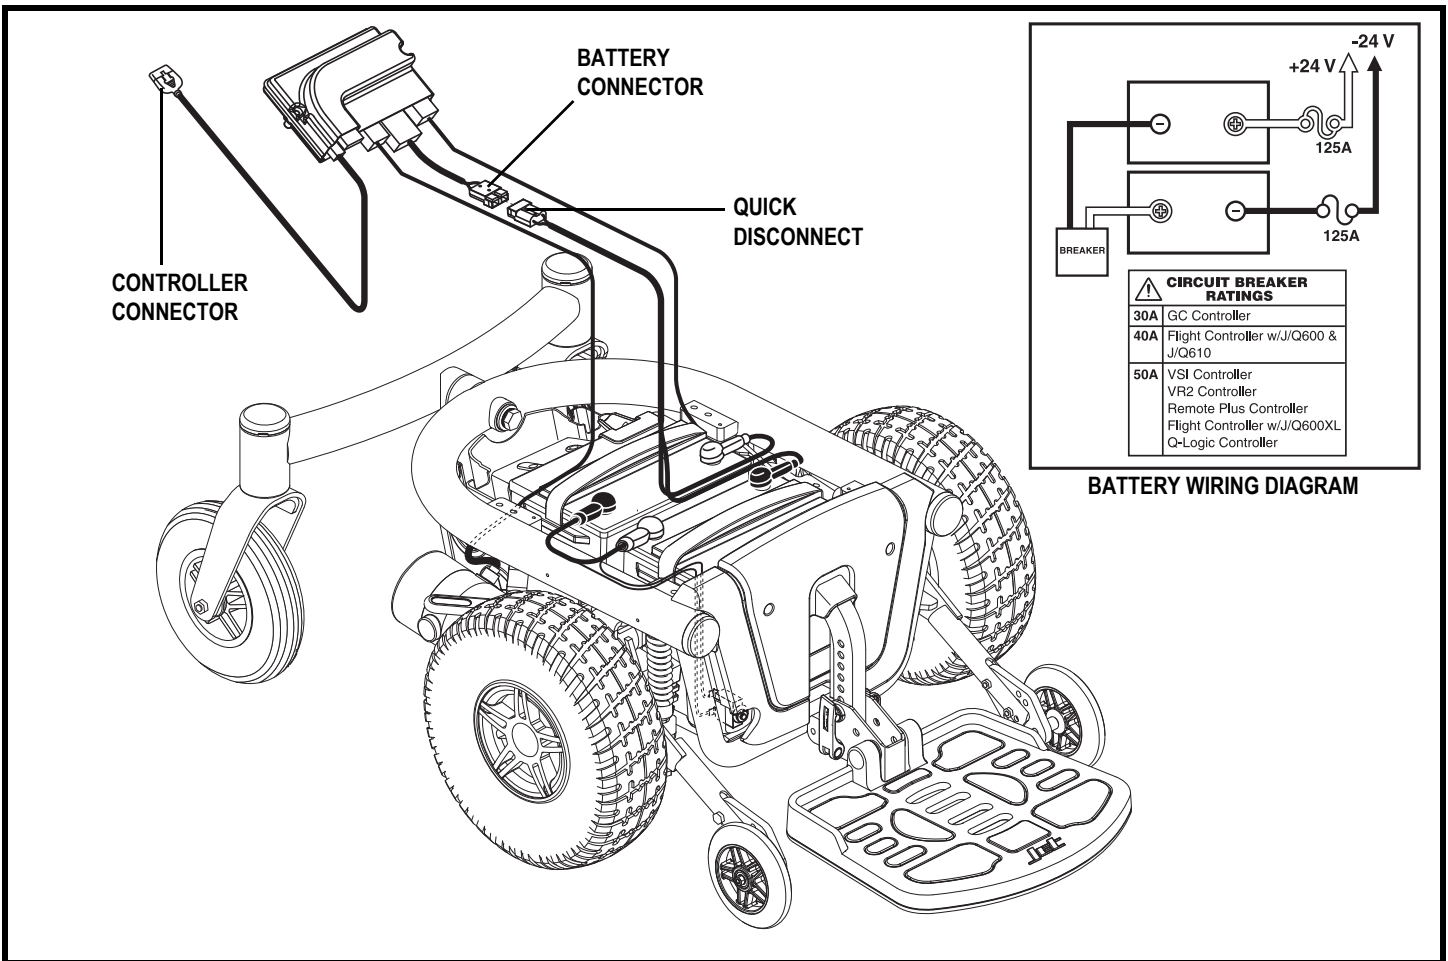

Figure 28. Battery Connections
5. Unplug the battery connector. See **figure 28**.
16. Connect the wiring harnesses to the rear battery. See **figure 28**.
19. Connect the wiring harnesses to the front battery. See **figure 28**.